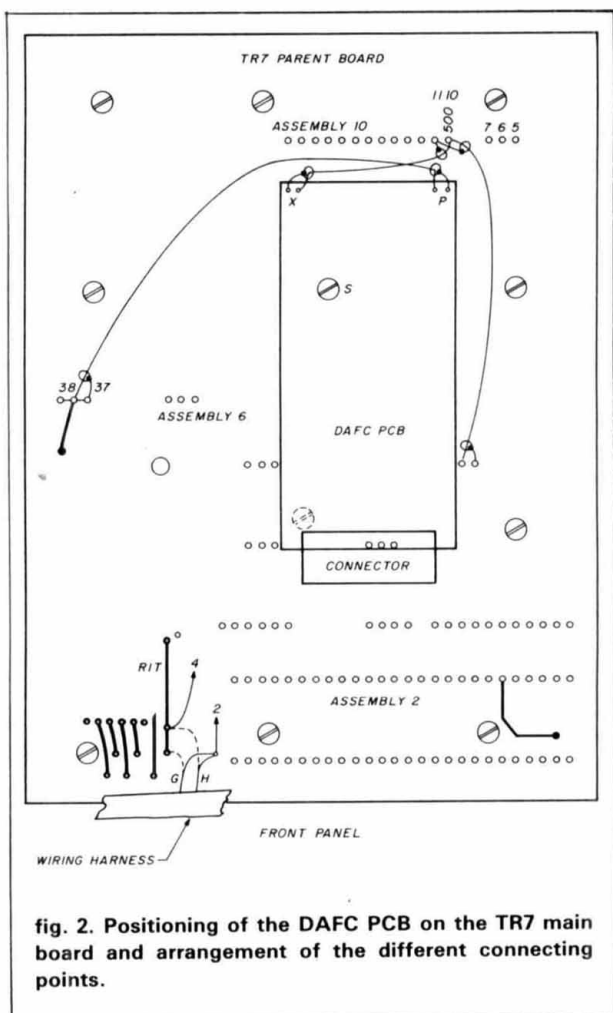

fig. 2. Positioning of the DAFC PCB on the TR7 main board and arrangement of the different connecting points.
The DAFC circuit board is mounted to the lower side of the main board as shown in **fig. 2**. Insert a sheet of flexible pressure-resistant insulating material between the two soldered sides. The circuit board and
the insulating sheet are fixed to the main board by means of a screw (S in fig. 2) and two insulating spacers, each about 0.08 inch thick. To be on the safe side, insulate the bottom cover of the TR7 with insulating tape or sheet. The connection of the board to the TR7 is via a 13-pin connector and two small-diameter coaxial cables. (See photo B.)
**Figure 2** shows the bottom side of the TR7 main board. The connecting points which are used to install the DAFC board are labeled with assembly and pin numbers according to the TR7 service manual. The power supply board is not part of the main board; it is located to the left of the main board between the PA radiator and the rf and a-f gain controls. The 13.6-volt supply voltage is picked up from pin 9 (counted from the left) of the power supply board. The RIT control voltage is available on the conductor labeled RIT in **fig. 2**. In the original wiring the RIT voltage is run from this conductor to the internal and external VFOs with one wire each.